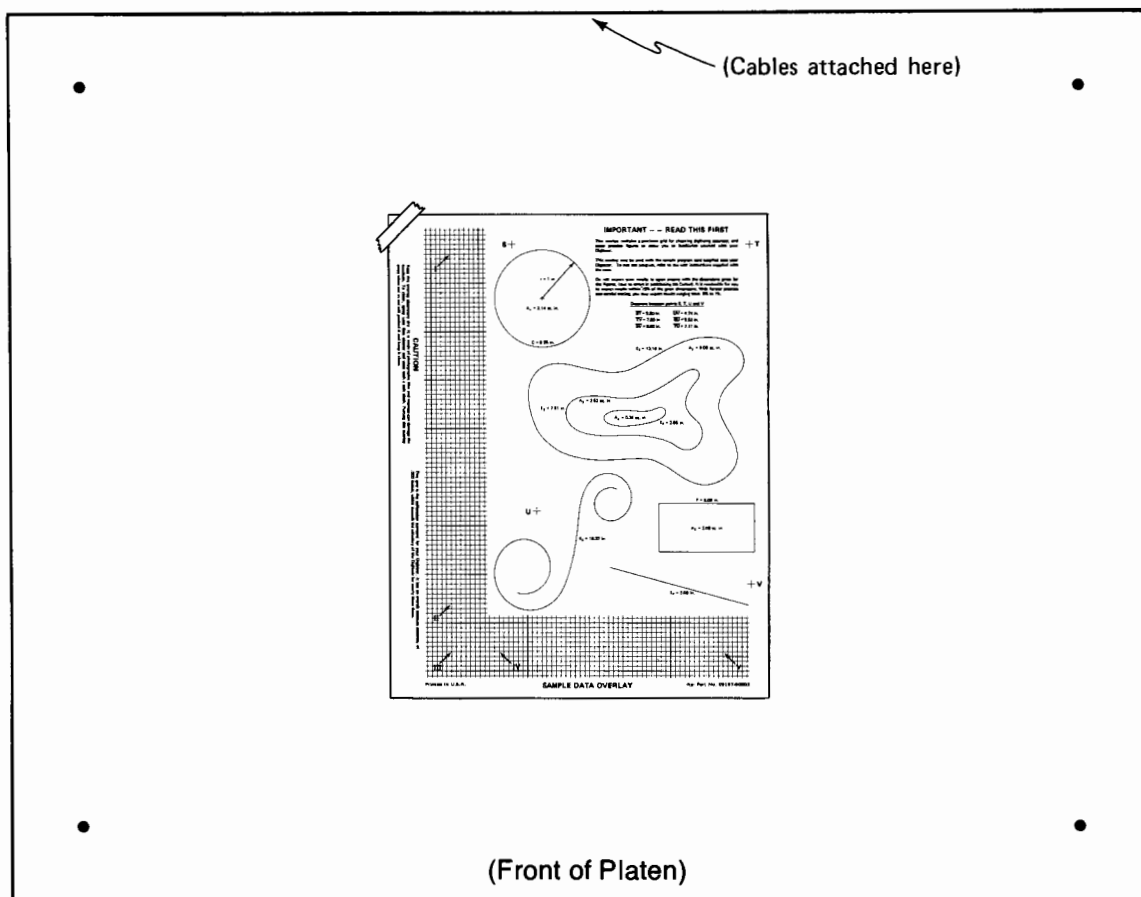

Figure 6-1. Document Alignment Procedure
Attach the Sample Data Overlay supplied with your digitizer to the platen (see Figure 6-1) and tape down all four corners of the overlay.
1. Attach the Sample Data Overlay (or any other document which is to be digitized) to the digitizing surface, as shown in Figure 6-1.